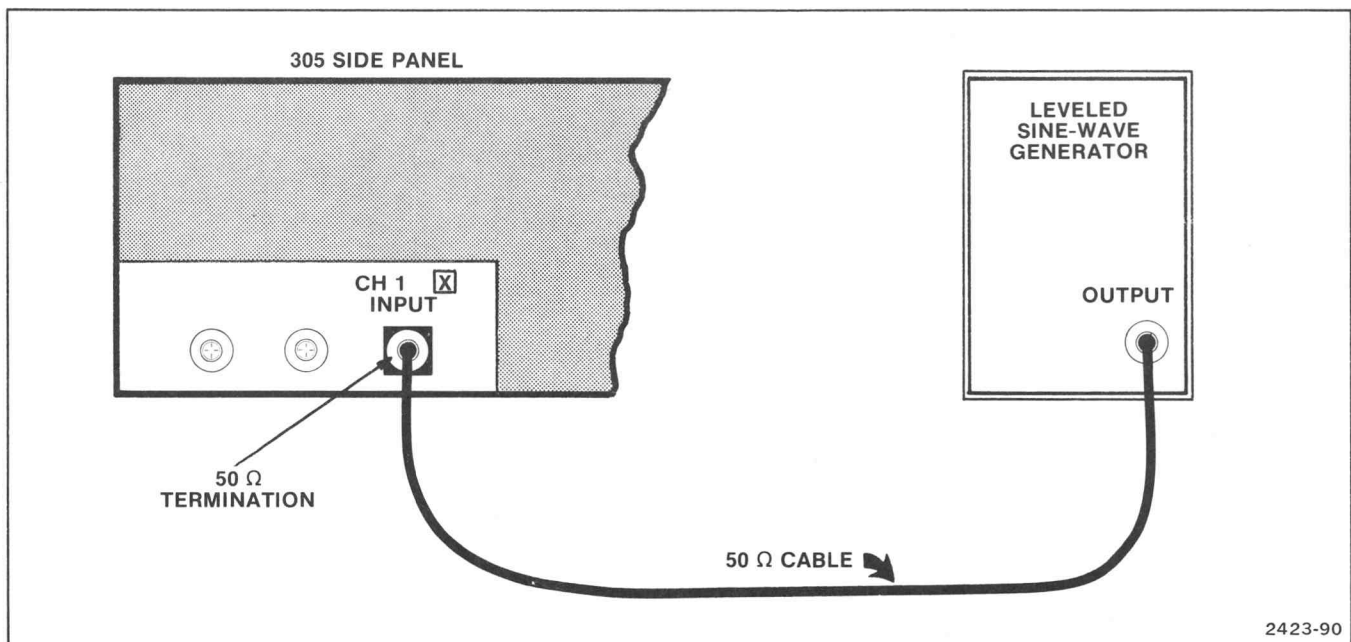

Fig. 6-2. Limit centering test setup.
a. Connect a leveled sine-wave generator as shown in Fig. 6-2 and set it for a 50 kHz, 8 vertical division display.